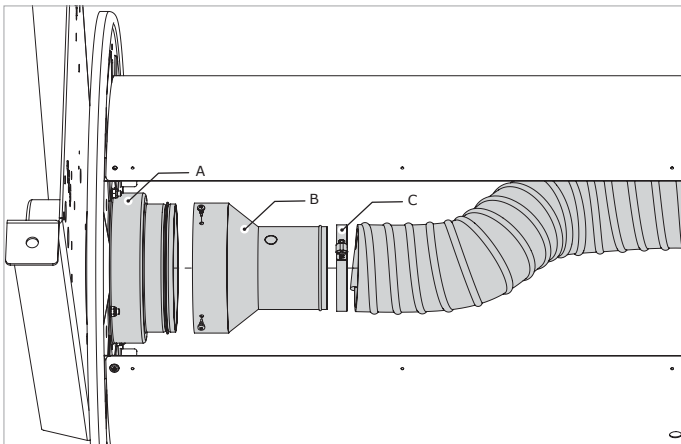

Fig. 4.2 Mounting the hose
- Mount the hose connection (B) to the bearing (A) (fig. 4.2).
- Mount hose to the duct adapter using clamp (C) together with the hose support bracket (fig. 4.2).